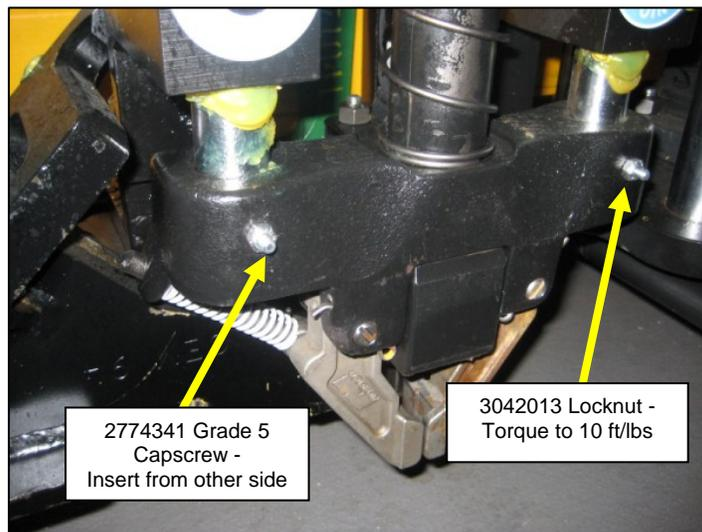

Figure 2
3. Install the 1/4"x3" Grade 5 Hex Head Capscrew through the hole in the Jaw Mounting. **NOTE:** Make sure the head of the Capscrew is on the Spike Tray side of the Jaw Mounting to prevent interference with the Tray Head Assembly. See Figure 2.